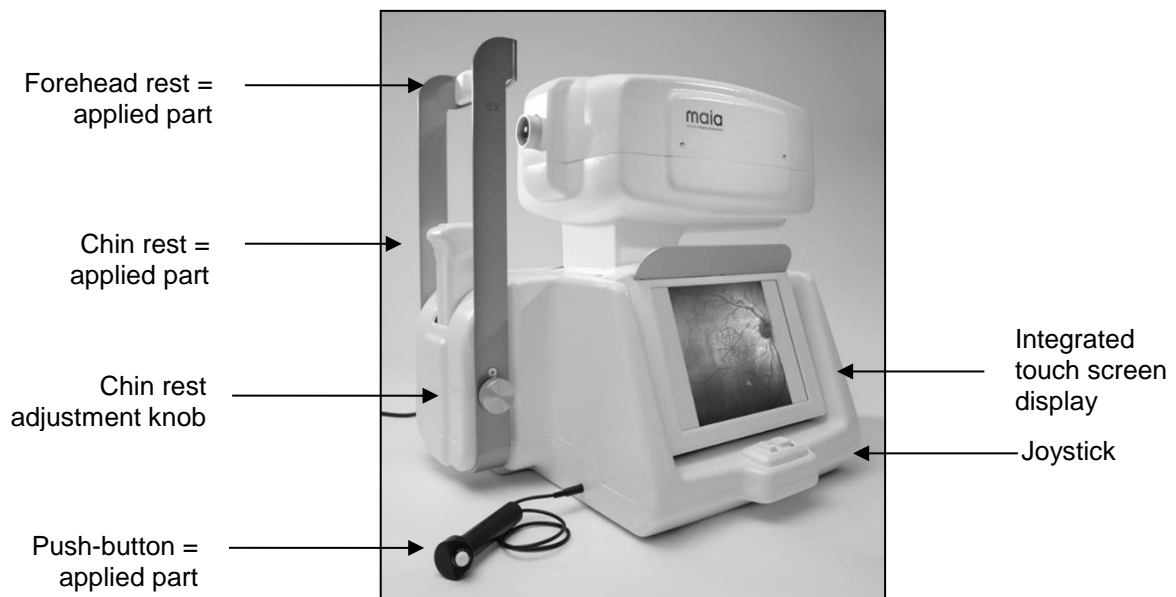

Fig. 5 – MAIA front view
- connect the push-button to the push-button connector (see Fig. 2 or Fig. 5): the push-button is used by examined subjects during the test, as explained at par. 7, item 8;